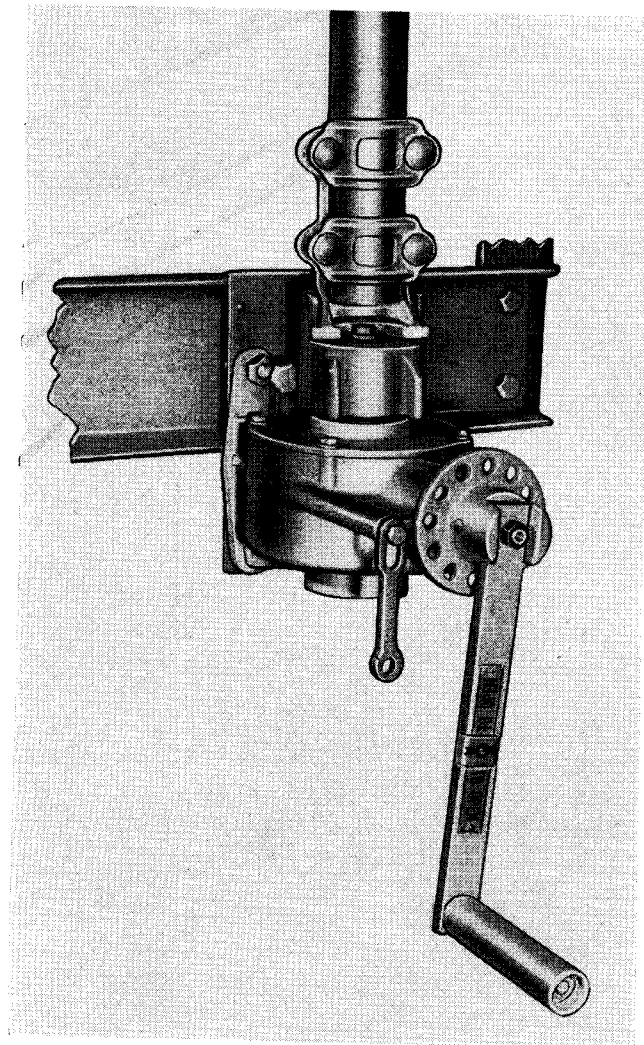
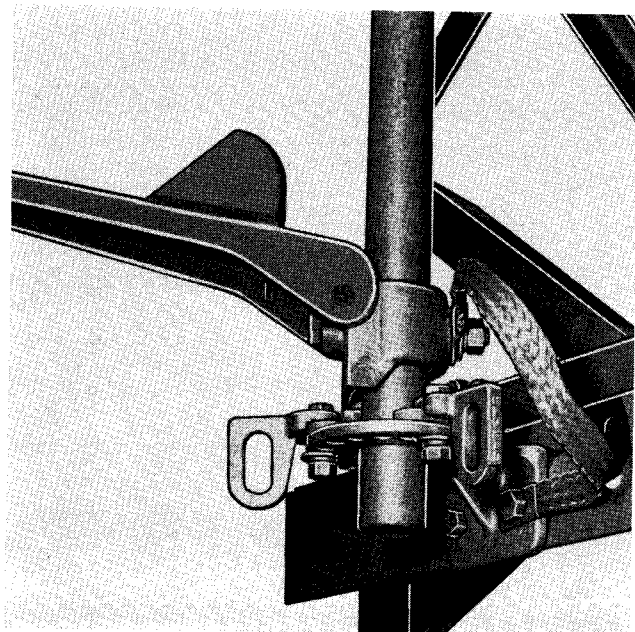

FIG. 10.
FIG. 11.
(6) Install the operating handle as shown in Fig. 10 or Fig. 11. Set the driven pole unit in the fully open position and set the handle accordingly before clamping the handle to the pipe.